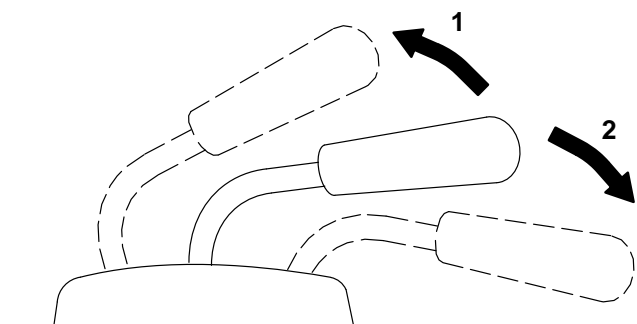

Figure 21
2. Pull the lift lever UP to raise the attachment (Fig. 21). This will lift and hold the attachment in the raised position.
2. Push the lift lever DOWN to lower the attachment (Fig. 21).